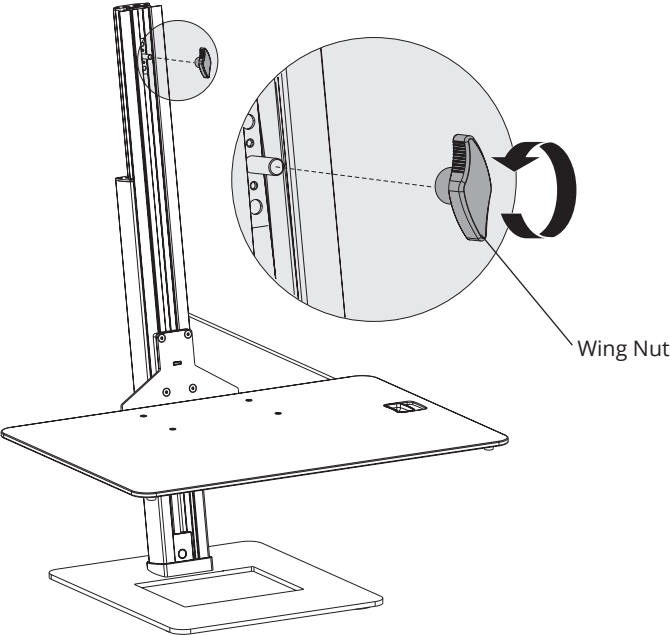

Figure 7
1. Remove the Wing Nut from the Support Pole, see Figure 7.